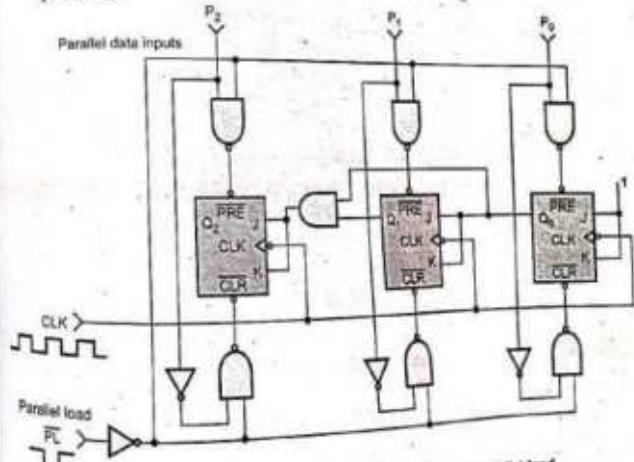

Fig. 5.9.44 Synchronous counter with asynchronous parallel load
- Fig. 5.9.44 shows the logic circuit for a three-bit presettable parallel up counter.